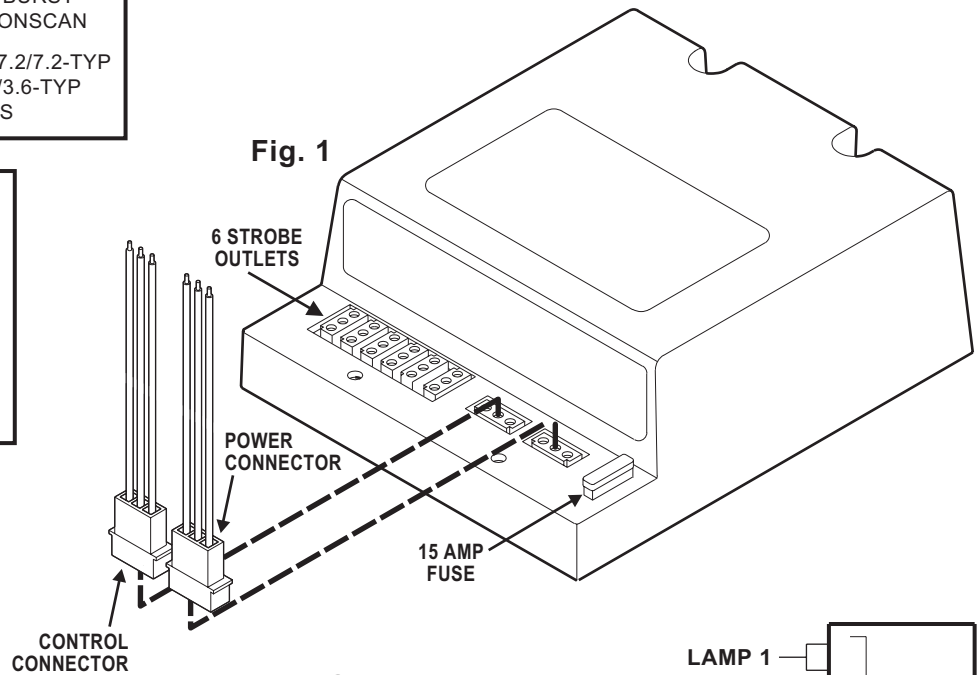

Fig. 2
4. Refer to Fig. 2 for wiring information for the Control Connector and for the Pattern Selection Connector.
5. As indicated in Fig. 2, there is a provision in the Power Connector for a wire (VIOLET) to activate Hi/Lo Power strobe operation. If this feature is desired, locate the VIOLET wire included with your power supply and, with the Power Connector disconnected from the power supply, insert the pinned end of the VIOLET wire into position 3 of the Power Connector. Refer to Fig. 2 for wiring information.